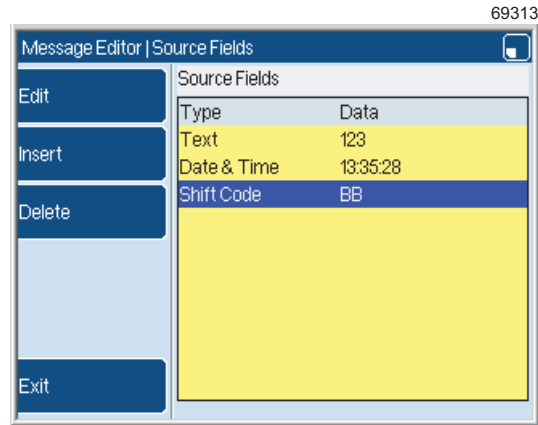

Figure 17. Source Fields page: three fields
- 12 Press the **Insert** key to insert another field if necessary. For example in Figure 17 the encoded field has three source fields.